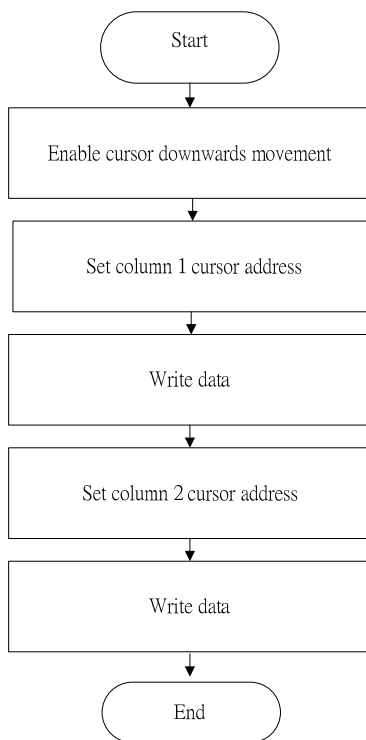

Figure 8-13: 16 x16-dot Display Flowchart
2. The microprocessor sets the display address and writes to the VRAM. The flowchart is shown in Figure 8-13.